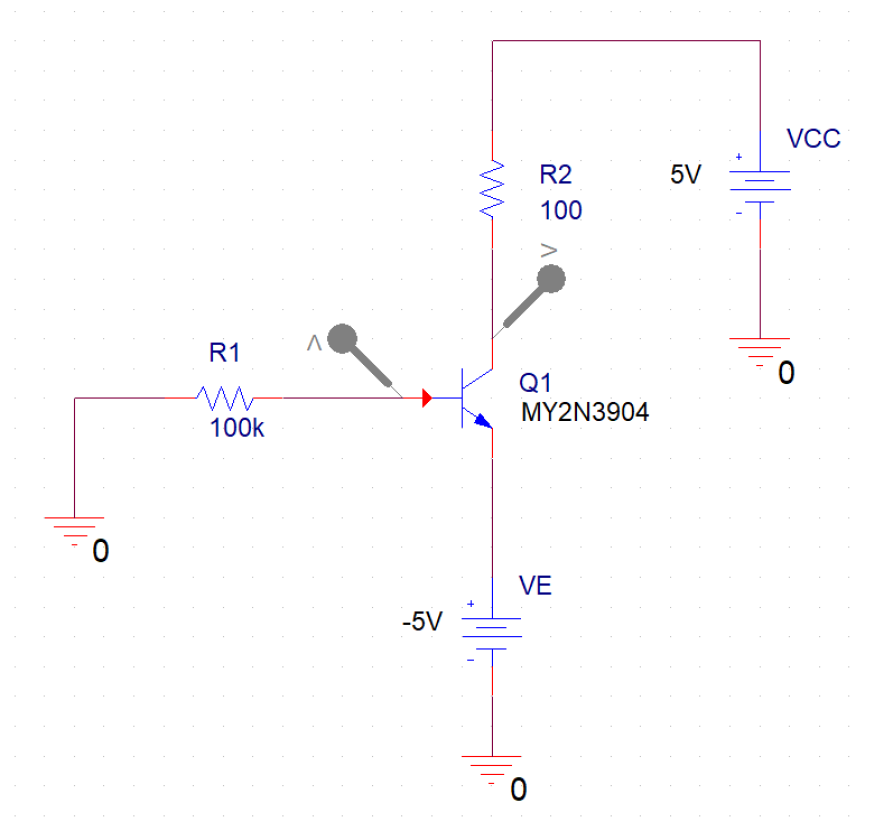

Fig. 1 The schematic diagram for the DC characterization of an NPN-BJT 2N3904
- 1.1 In Avenue to Learn, *Lab 1: Device Characterization and Biasing Circuits*, use the tutorials under the submodule “OrCAD PSpice” to prepare the circuit diagram in Fig. 1 to characterize an NPN-BJT 2N3904. Because AD2/3 only measures voltages, we use R_1 and R_2 in Fig. 1 as the current sensors and obtain $I_B = -V(Q_{1B})/R_1$ and $I_C = [V_{CC} - V(Q_{1C})]/R_2$.